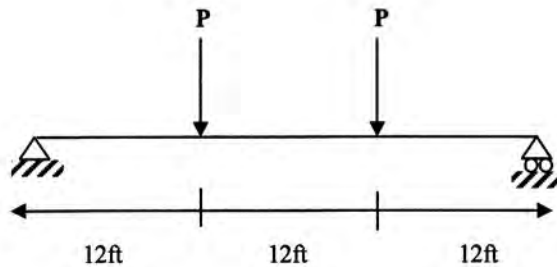

Figure 7
- (b) What are the disadvantages of structural steel as a building material? (03)
- 6.(a) A 36 feet simply supported beam of W14x109 size carries two concentrated loads as shown in figure 7. It is laterally supported at both ends and at points of concentrated load. What is the maximum permissible value of P? Use A572 grade 50 steel. Neglect self-weight of the beam and follow AISC-ASD principle. Given, E= 29,000 ksi. Dimensions and properties of the section are given with the question. (17)